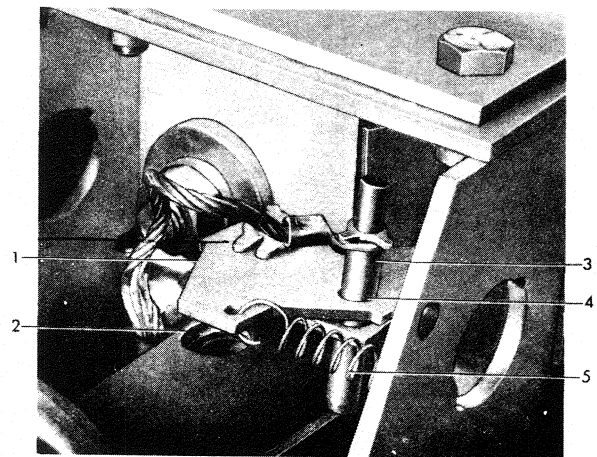
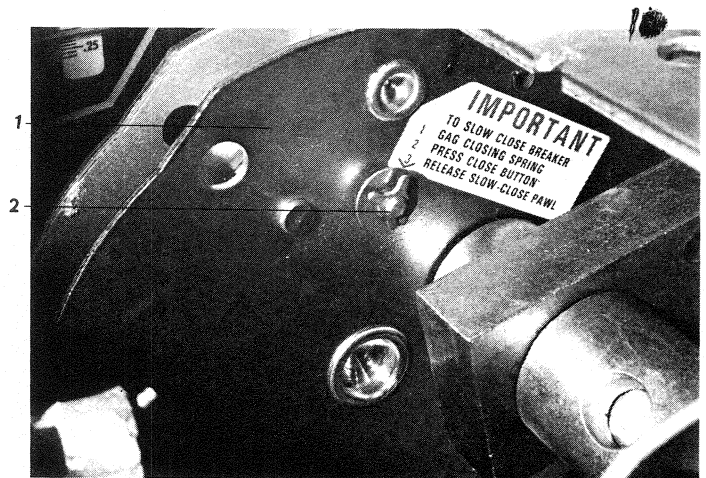

Fig. 10 Closing Spring Interlock
Fig. 11 Slow Close Pin On Flywheel
The closing spring gag interlock is provided on the breaker to prevent a breaker that has a gagged closing spring from entering the metalclad unit. This is accomplished by projecting a lever, (1) Fig. 10, out of the left side of the mechanism when the closing spring is gagged.
- (2) Insert the close spring blocking pin, (3) Fig. 10, by carefully removing it from its storage hole, rotating the interlock lever and inserting it in the blocking hole.
- (3) **CAUTION:** If the manual close button is not pressed prior to performing step 4, the breaker will be damaged. **PRESS THE MANUAL CLOSE BUTTON TO PARTIALLY DISCHARGE THE CLOSING SPRING AGAINST THE BLOCKING PIN.**
- (4) Pull the slow close pin on the flywheel, (2) Fig. 11, and resume ratchet wrench operation of the manual wind shaft. After several rotations at no apparent load, the winding mechanism will engage the slow close pawl and begin the closing operation of the mechanism.